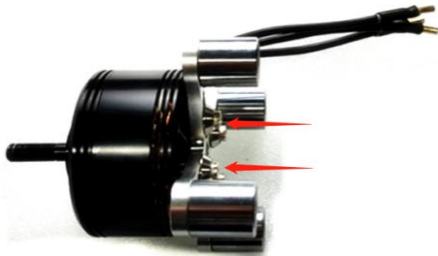
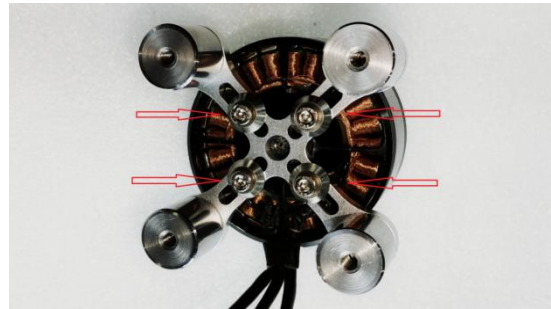

Fig.2.1.3
Fig.2.1.4
(2) Mount the motor with 4 screws and fish-eye washers, as shown in Fig. 2.1.3 and Fig. 2.1.4: